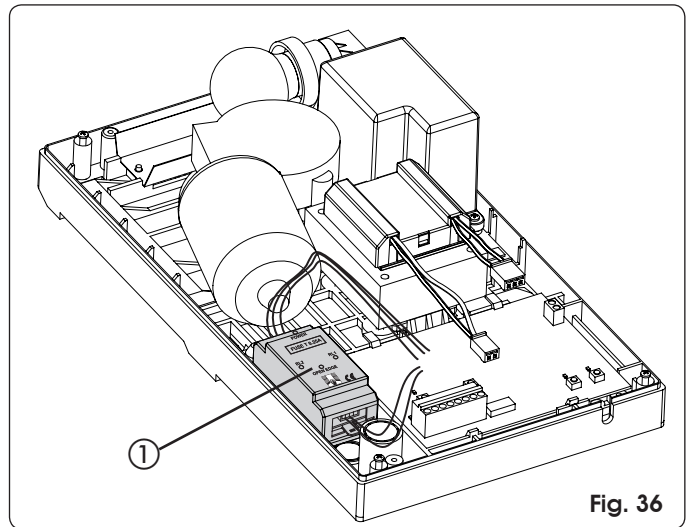

Fig. 36
The use of the safety edge with conductive element, is facilitated because the control unit (Fig. 36 ref ①) can be housed on board the operator.
- House the control unit as shown in Fig. 36.